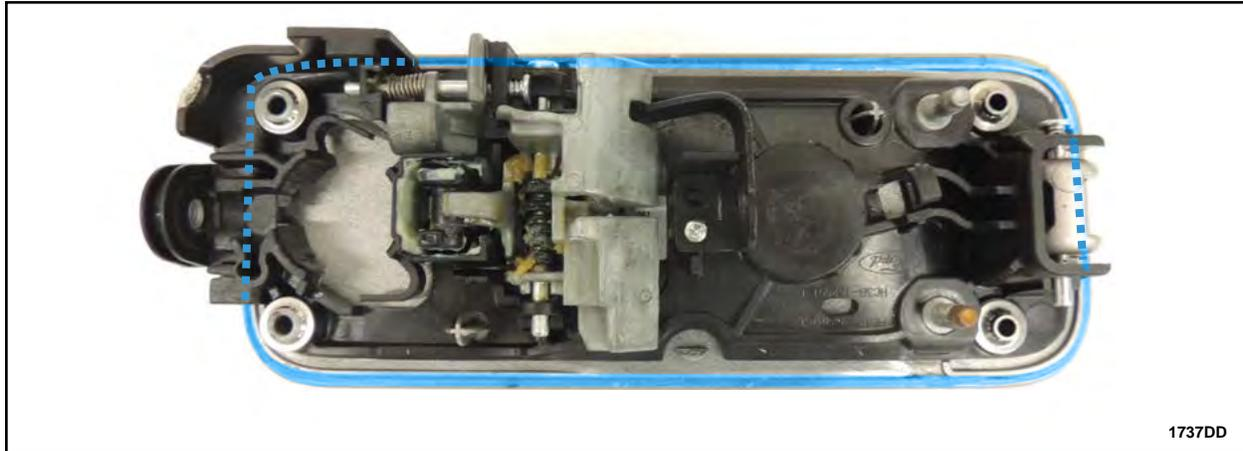

FIGURE 91
19. Using a clean shop cloth and isopropyl alcohol, clean the highlighted mating surface area of the exterior door handle. See Figure 91.